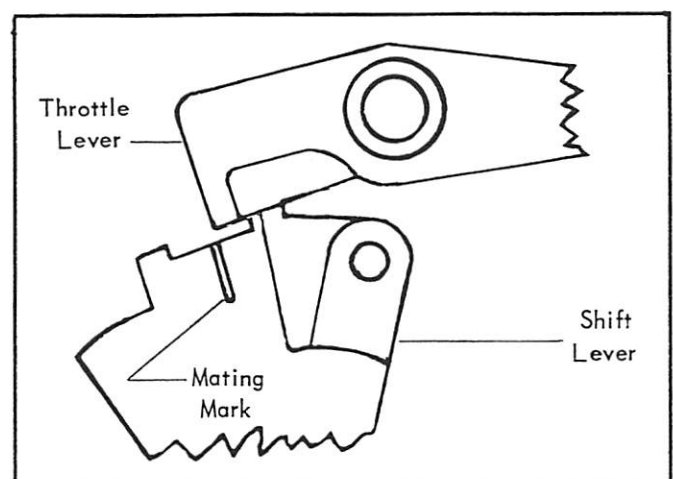

Figure 8. Linkage Adjustment
4. Adjust linkage so that mating mark on shift lever is to left of alignment mark on throttle control lever. (Figure 8)